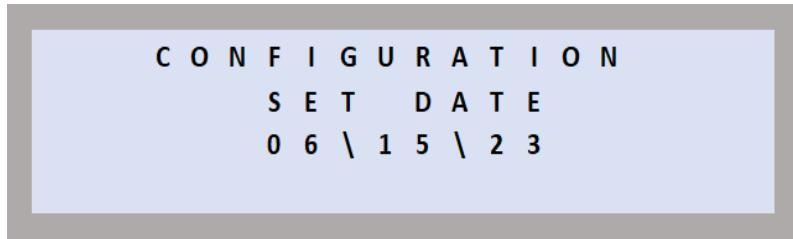

Figure 51
- The program accepts the date settings and returns you to the Configuration Set Date (**06/15/23**) default screen. The date on this screen (see Figure 51) is always 06/15/23. The newly set date will not show on this screen, but will be reflected on all other dated screens, such as the Title screen and Test screens.